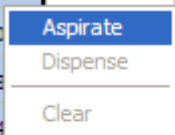

Figure 6.6 Well grid
3. Right-click the selected wells and select **Aspirate** from the pop-up menu that appears (Figure 6.6).